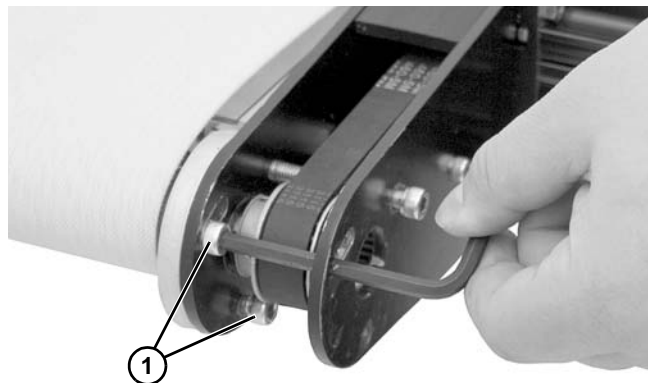

Figure 12
14. Rotate drive package to tension belt. Tighten two screws (Figure 12, item 1).